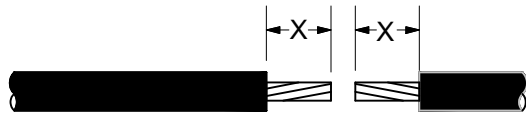

Figure 1
1. Remove the insulation/jacket as shown in Figure 1. "X" dimension is the insert depth of the connector being used. The connectors, used on 350 kcmil and 750 kcmil cables, shall not exceed a length of 6-1/4". The connector, used on 1/0 cable, shall not exceed a length of 4-1/2".